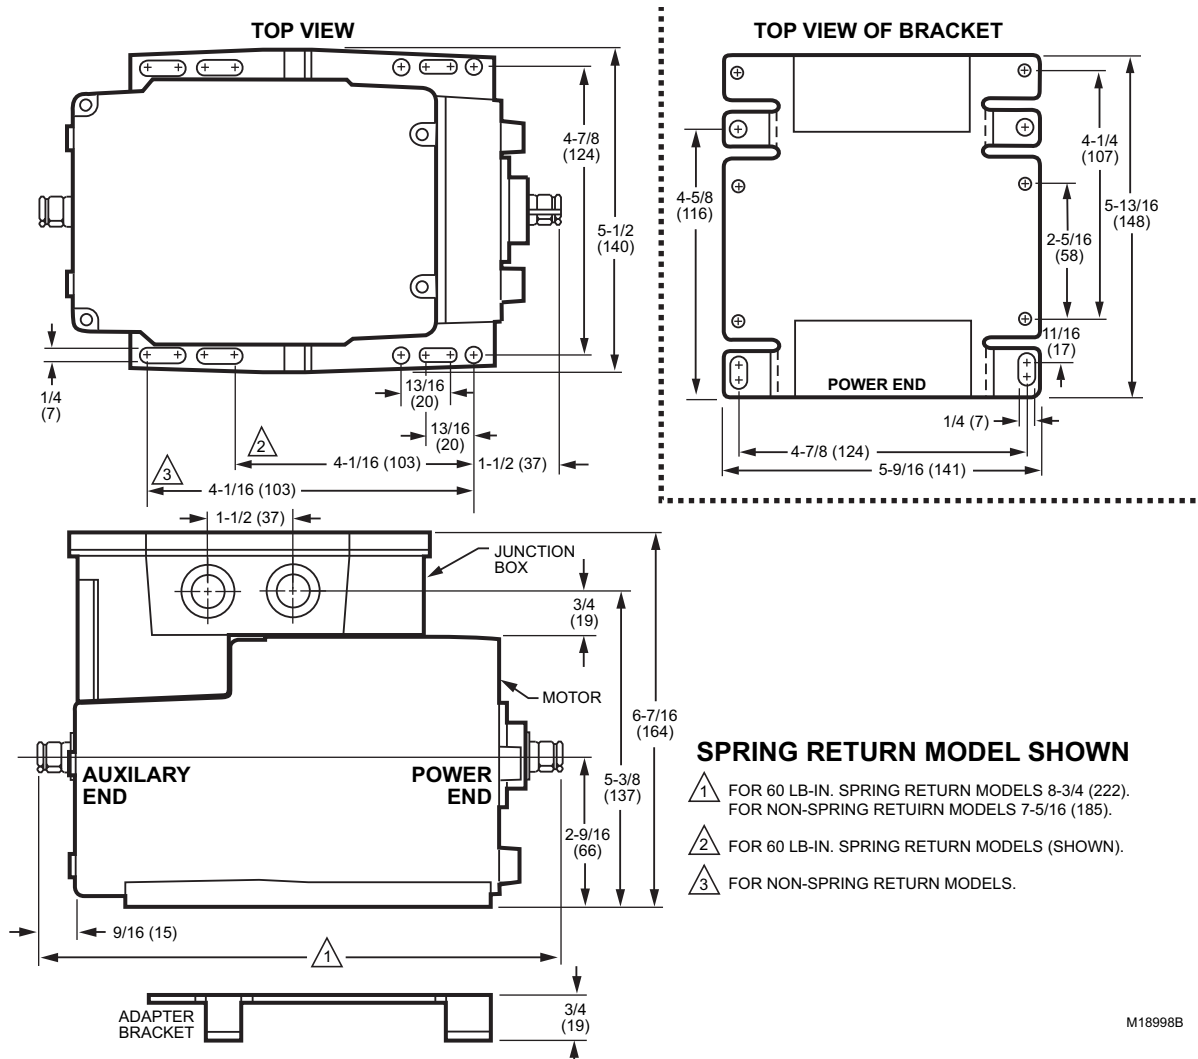

Fig. 2. Series 61 and 62 Modutrol IV Motor mounting dimensions in inches (mm).
**Dimensions:** See Fig. 2.
Allow enough clearance for accessory installation and motor servicing when selecting a location (see Fig. 2). If located outdoors, use liquid-tight conduit connectors with the junction box to provide NEMA 3 weather protection. If mounted outdoors in a position other than upright, install a 4074ERU Weatherproofing Kit and liquid-tight connectors to provide NEMA 3 protection.